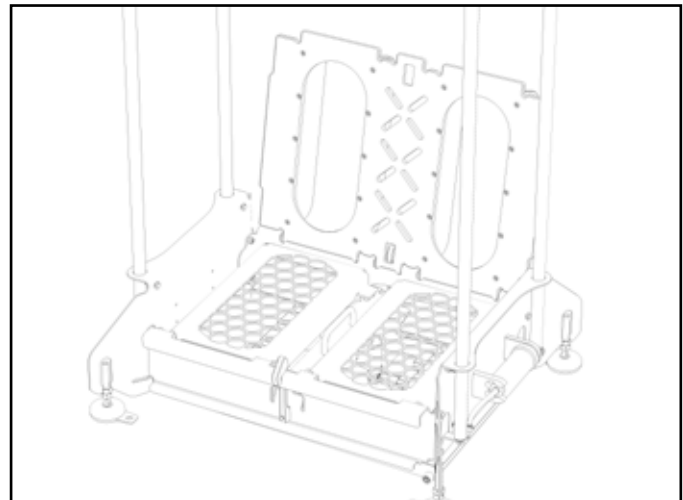

Fig. 7.2: Hinged open foot plate
2. The base plate can be hinged open if desired as shown in [Figure 7.2].